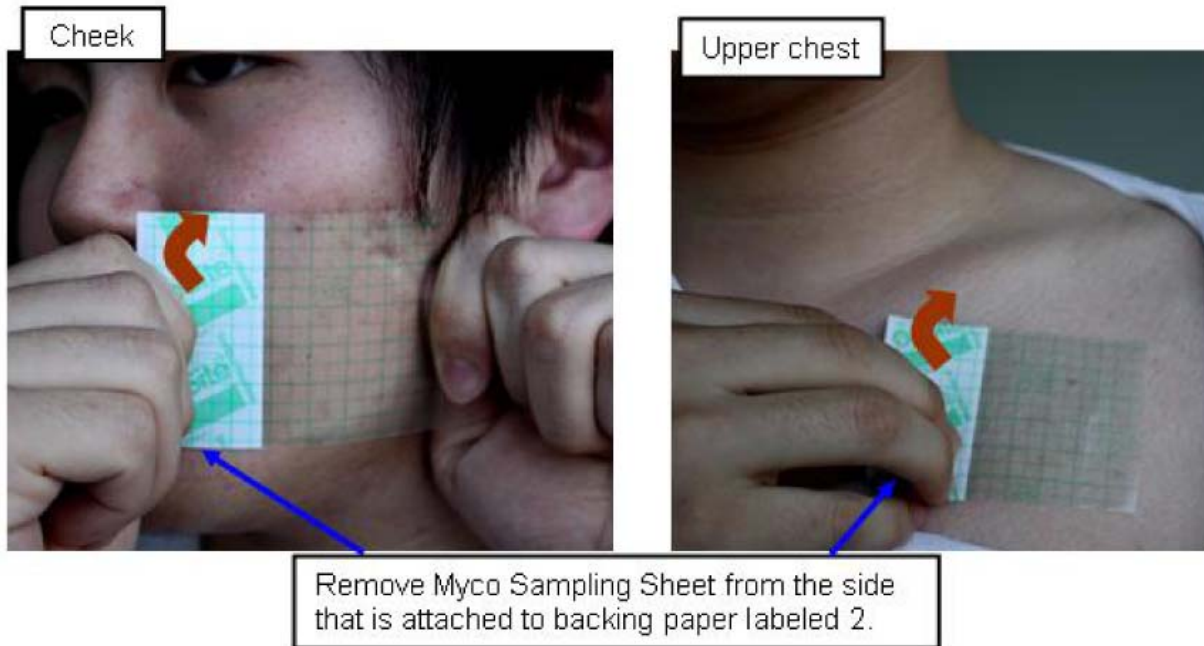
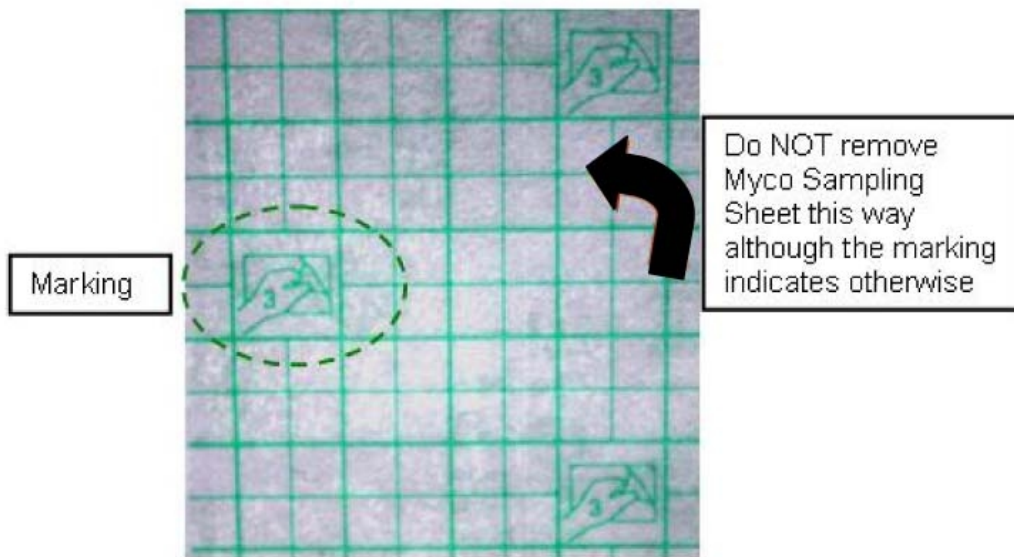

Figure 5. Applying and removing Myco Sampling Sheet
Figure 6. The marking on Myco Sampling Sheet.
Refer to Figure 5.
Refer to Figures 6.
- 2.5 Hold Myco Sampling Sheet's edge that is attached to the backing paper labeled 2 and remove Myco Sampling Sheet from the skin as shown in Figure 5. (Do not remove it in the direction depicted on the backing, shown in Figure 6)